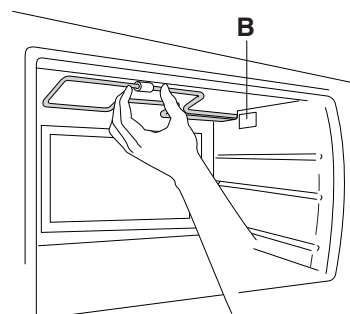

fig. 13
**IMPORTANT:** after cleaning, fasten the heating element back in place (Fig. 13). **The oven must not be used when the heating element is in the lowered position.**